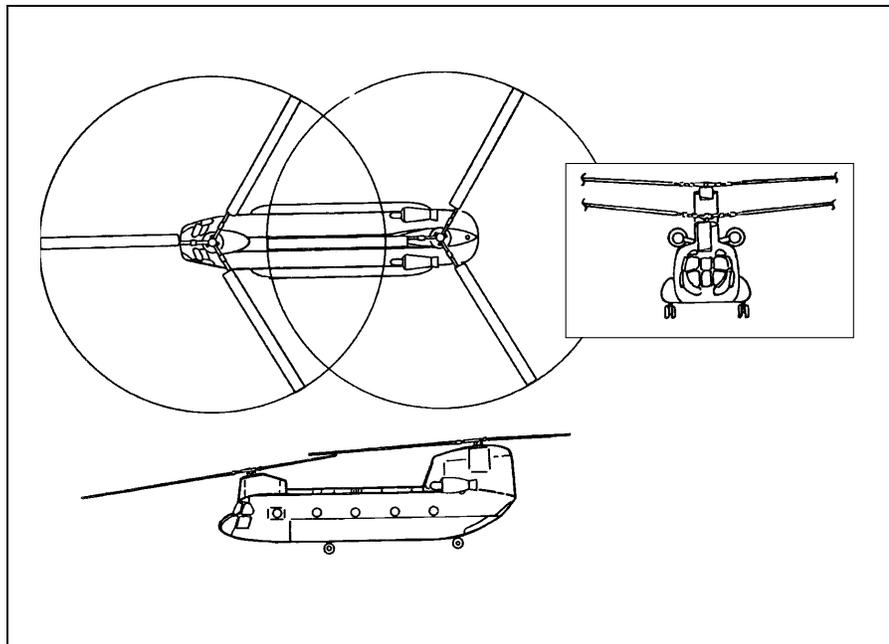

**Figure B-7. CH-47B/C (Chinook).**
a. **CH-47B/C Chinook.** Table B-7 shows specifications for the CH-47B/C Chinook; Figure B-7 shows the aircraft from three angles: